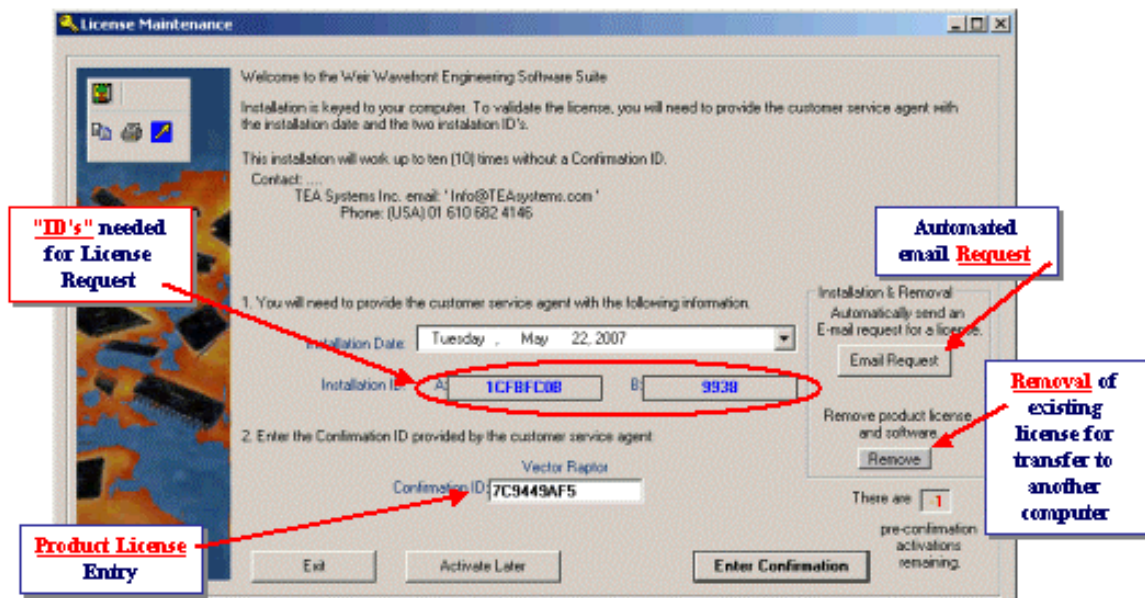

Figure GS1: TEA Systems Product License Manager Interface
The first time you start up the program, the TEA Systems License Manager, shown above in **Figure GS1** will appear.
- b) **OR** us the “Email Request” command button shown on the License Manager shown in **Figure GS1**.
Since the product license is keyed to the hardware of your computer, moving a TEA Product to another computer requires you to first remove the installed product license to obtain a Product Removal Key. You can remove the software by pressing the “**Remove**” button located on the left side of the License Manager interface as shown on Figure GS1.